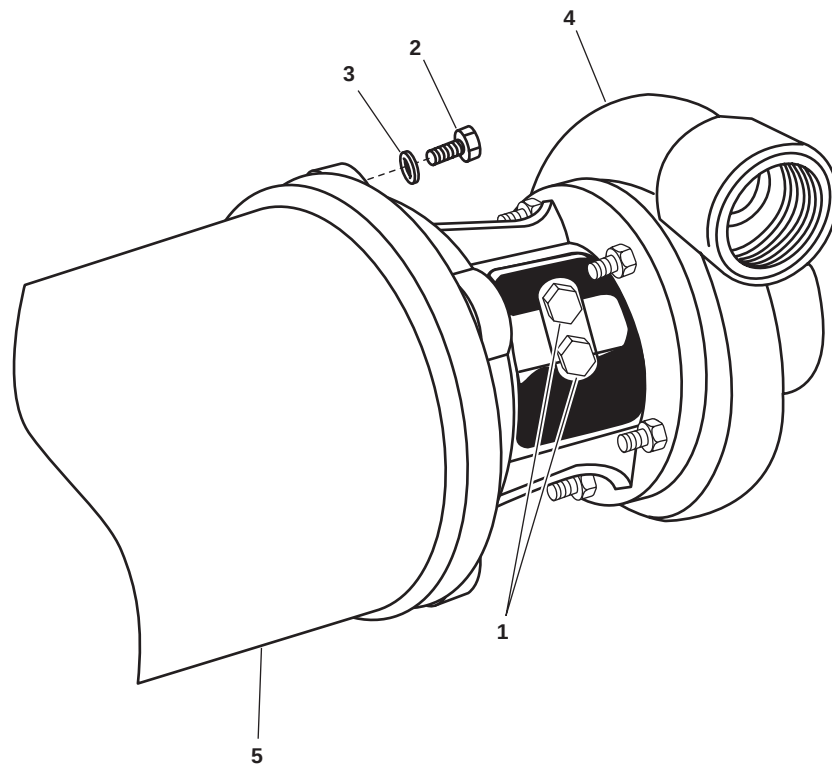

Figure 1. Potable Water Pump Assembly
1. Loosen, but do not remove, the two exposed capscrews (figure 1, item 1).
2. Remove the four bolts (figure 1, item 2) and four lockwashers (figure 1, item 3) that secure the pump (figure 1, item 4) to the motor (figure 1, item 5). Discard the lockwashers.
3. Remove the pump (figure 1, item 4) from the motor (figure 1, item 5).
1. Install the pump (figure 1, item 4) on the motor (figure 1, item 5) using four bolts (figure 1, item 2) and four new lockwashers (figure 1, item 3).
2. Tighten the two exposed capscrews (figure 1, item 1).